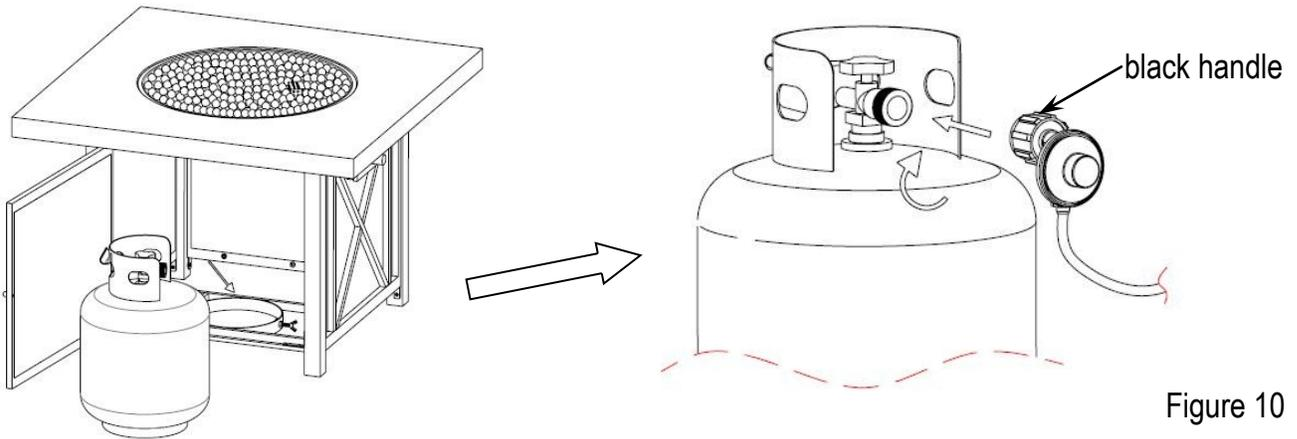

Figure 10
10. Open the door, place the gas cylinder into the Gas Cylinder Support (L), connect the regulator, screw the black handle clockwise to tighten, turn the black handle counterclockwise to remove. The hose must point down. The knob on the control panel is turned all the way to the “OFF” position when the fire pit is NOT in use (see Figure 10).